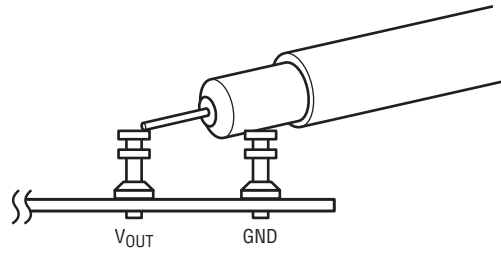

Figure 4. Measuring Output Ripple
**NOTE.** When measuring the input or output voltage ripple, care must be taken to avoid a long ground lead on the oscilloscope probe. Measure the input or output voltage ripple by touching the probe tip directly across the  $V_{IN}$  or  $V_{OUT}$  and GND terminals. See Figure 4 for the proper scope technique.